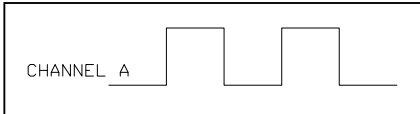

Figure 2. Single channel encoder output.
- Single channel (Figure 2)
### Single Channel (Figure 2)